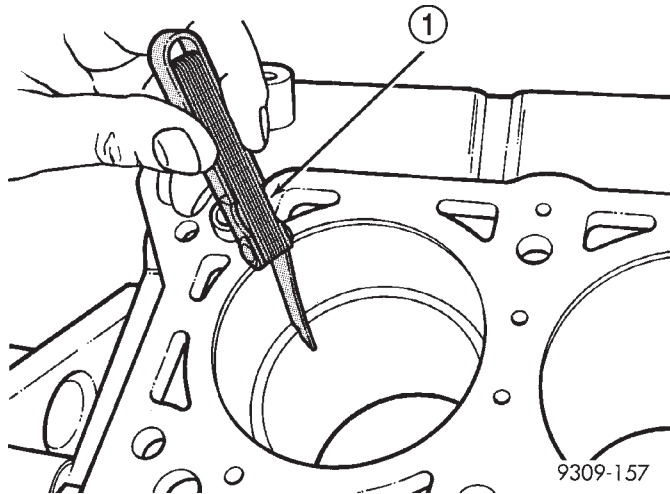

Fig. 5 Piston Ring Gap
(1) Wipe cylinder bore clean. Insert ring and push down with piston to ensure it is square in bore. The ring gap measurement must be made with the ring positioned below normal ring travel in the cylinder bore. Check gap with feeler gauge (Fig. 5). Refer to Engine Specifications in this section for piston ring specifications.